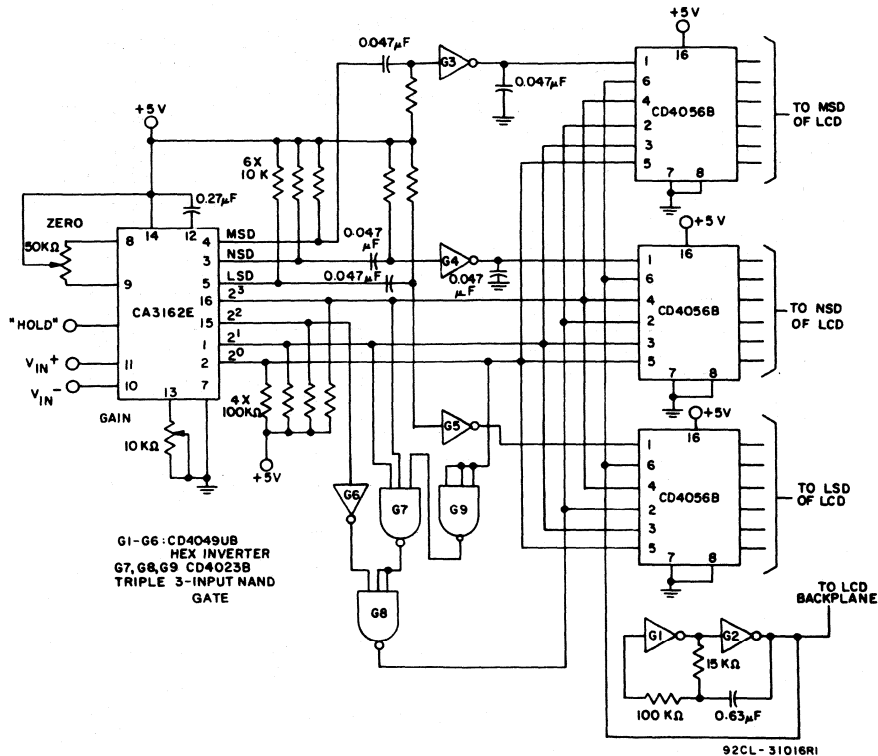

Fig. 4 - Typical LCD application.
Fig. 4 shows the CA3162E in a typical LCD application. LCD's may be used in favor of LED displays in applications requiring lower power dissipation, such as battery-operated equipment, or when visibility in high-ambient-light conditions is desired.
The circuit as shown in Fig. 4, using G7, G8 and G9, will decode the negative sign (-) as a negative sign (-), and the positive overload indicator (E) as an "H".